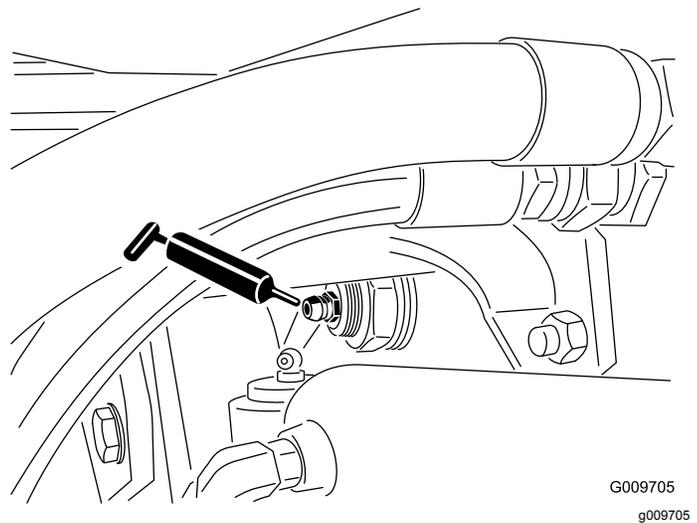

Figure 47
- Rear axle pivot bushings (2) (Figure 47)